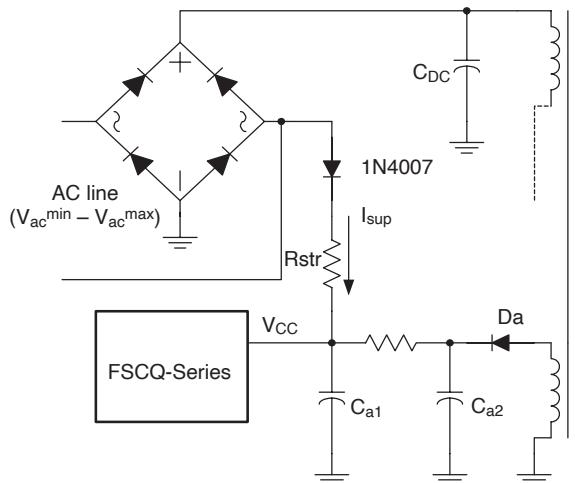
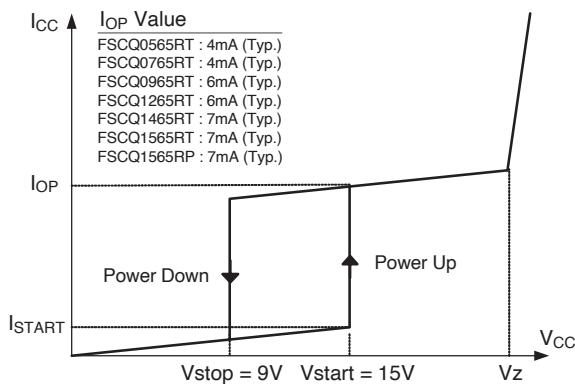

Figure 4. Startup circuit
Figure 5. Relationship Between Operating Supply Current and Vcc Voltage
1. Startup: Figure 4 shows the typical startup circuit and the transformer auxiliary winding for the FSCQ-Series. Before the FSCQ-Series begins switching, it consumes only startup current (typically 25µA). The current supplied from the AC line charges the external capacitor (C_{a1}) that is connected to the Vcc pin. When Vcc reaches the start voltage of 15V (V_{START}), the FSCQ-Series begins switching, and its current consumption increases to I_{OP} . Then, the FSCQ-Series continues its normal switching operation and the power required for the FSCQ-Series is supplied from the transformer auxiliary winding, unless V_{CC} drops below the stop voltage of 9V (V_{STOP}). To guarantee the stable operation of the control IC, V_{CC} has under voltage lockout (UVLO) with 6V hysteresis. Figure 5 shows the relationship between the operating supply current of the FSCQ-Series and the supply voltage (V_{CC}).